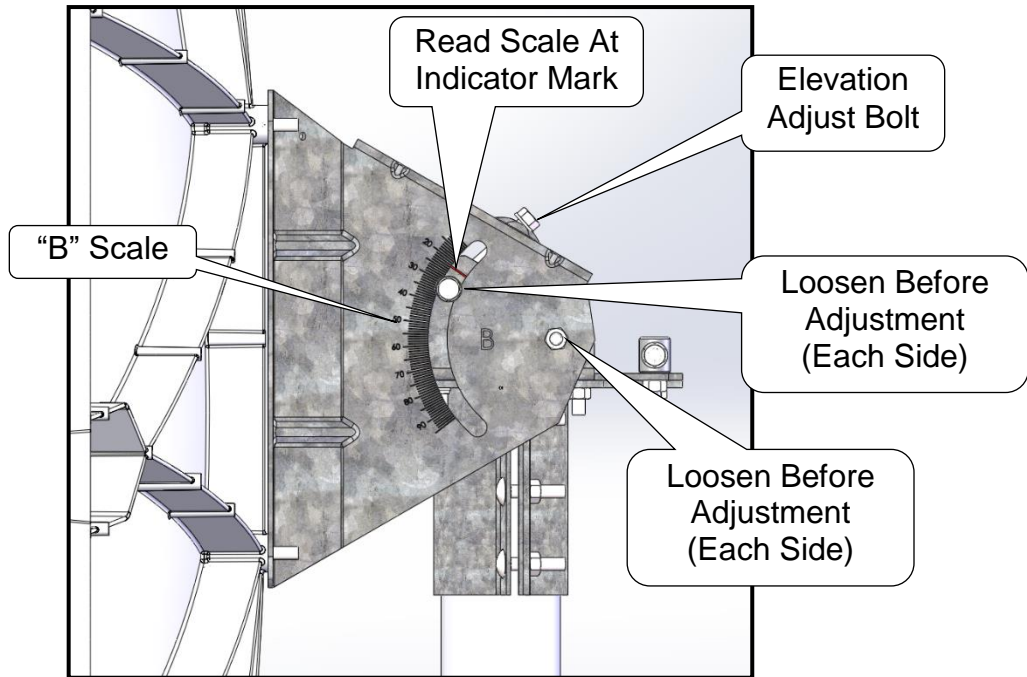

Figure 3-1
STEP 1: **BEFORE ADJUSTING ELEVATION, LOOSEN THE HARDWARE ON BOTH SIDES OF THE POSITIONER (2 PLACES EACH SIDE). REFER TO FIGURE 3-1 FOR LOCATION.**
Adjust the Reflector up or down in elevation by turning the 5/16" Elevation Adjust Bolt at the top of the Az/EI Positioner until the desired elevation is read on the side of the Positioner. See Figure 3-1.